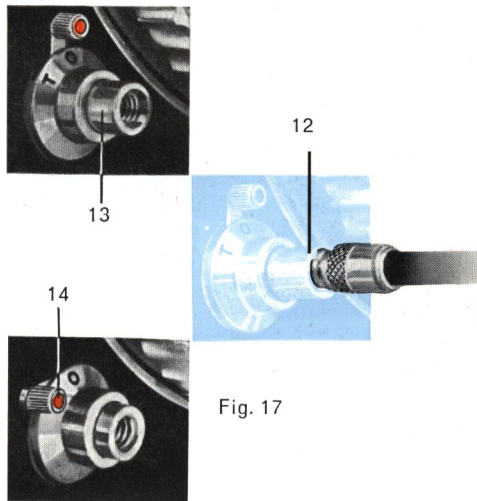

Fig. 17
1. The last film frame has been exposed, leaving no number visible in the film window (21).
2. The time catch is at "T" and the release button has not returned to the original position. See page 19, fig. 17.